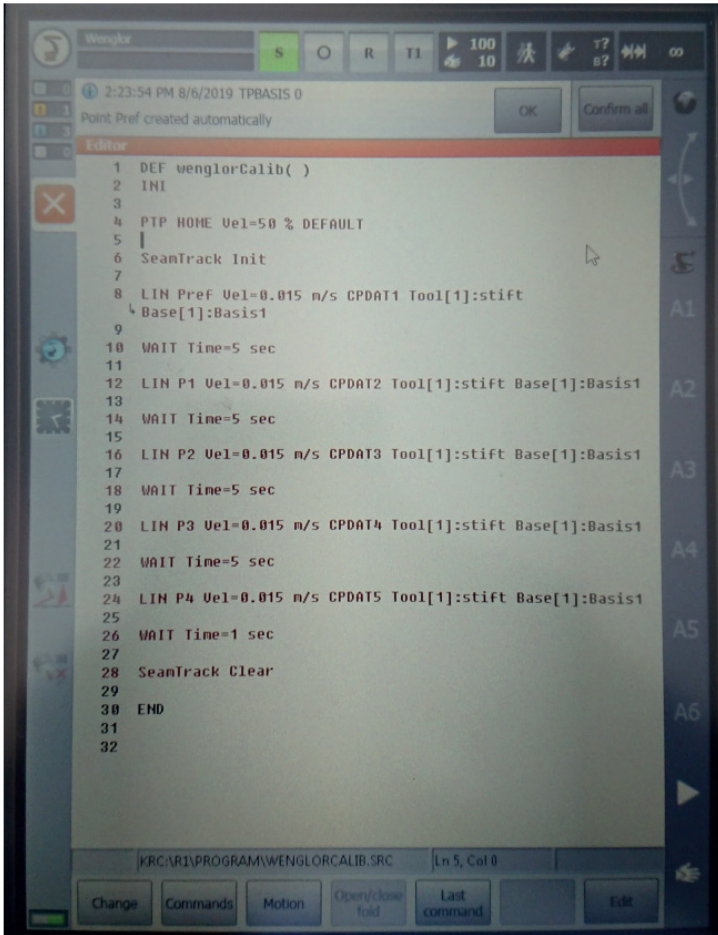

Fig. 18: Calibration program example in KUKA controller
2. Write a simple calibration program in the robot controller as demonstrated in the screenshot in Fig. 18, where Pref, P1, P2, P3 and P4 are the points to be taught as described below. Tool[1] and Base[1] are the tool coordinate system and base coordinate system.